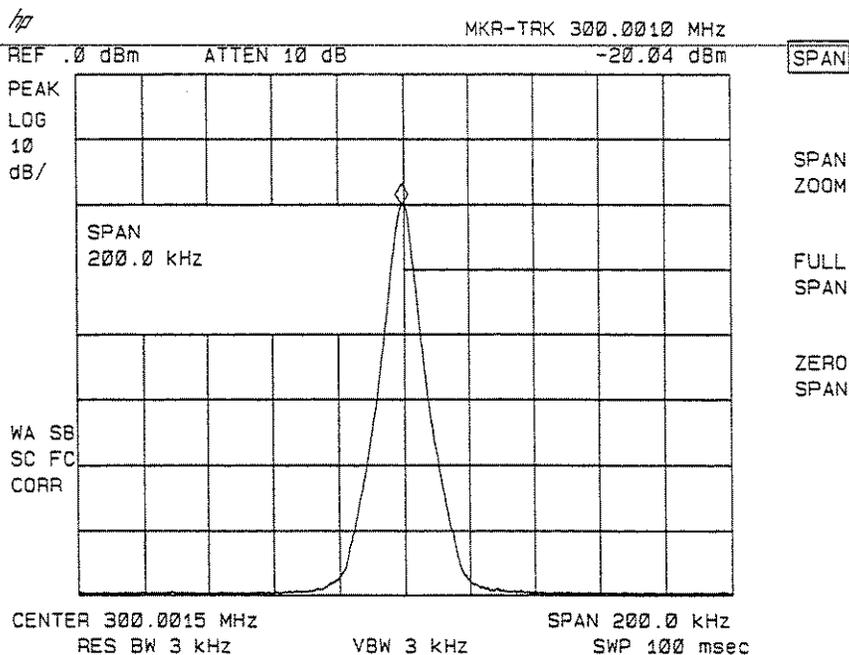

Figure 2-7. After Zooming In on the Signal
3. Press **SPAN**, 200 **kHz**. The span decreases in steps as automatic zoom is completed. You can also use the knob or step keys to decrease the span. See Figure 2-7.